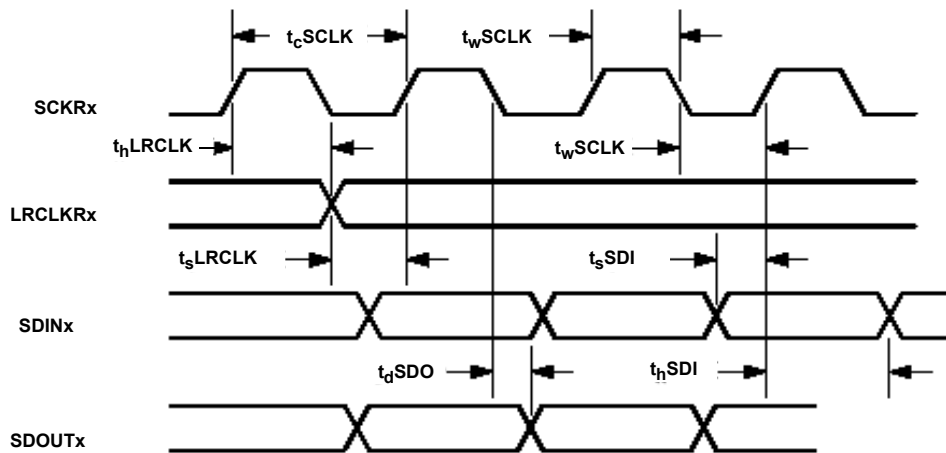

FIGURE 2. SERIAL AUDIO INTERFACE PORT TIMING
**Serial Audio Interface Port Timing** (Figure 2)  $T_A = +25^\circ\text{C}$ ,  $CVDD = PLLVDD = 1.8\text{V} \pm 5\%$ ,  $RVDD = PWMVDD = 3.3\text{V} \pm 10\%$ . All grounds at 0.0V. All voltages referenced to ground.